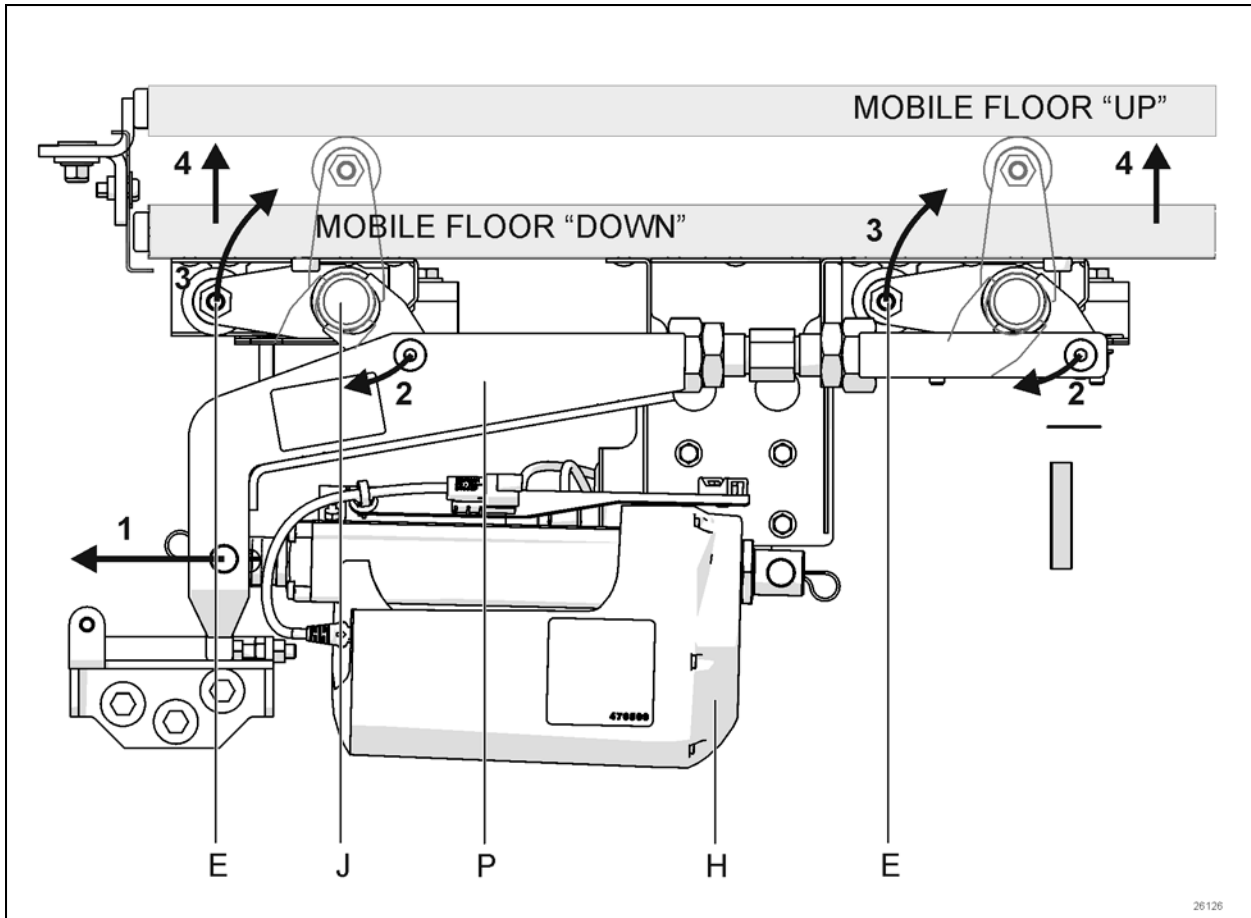

FIGURE 46: FLUSH FLOOR LIFTING
When the linear actuator extends (Figure 46, 1), the transfer arm rotates the floor lift shaft links inward (2), rotating at the same time the eccentric rollers upward (3), effectively lifting the mobile floor (4) The vertical movement of the floor is guided by a pair of vertical linear bearings (G).